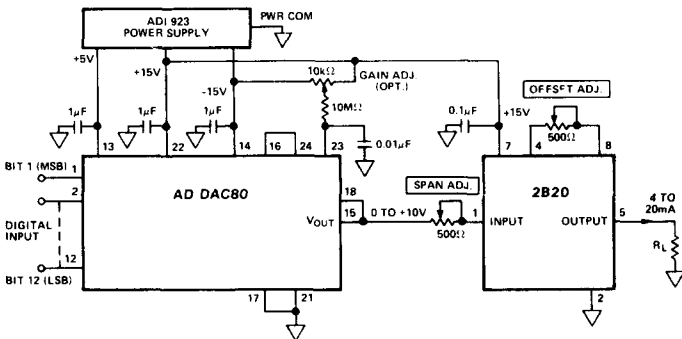

Figure 6. AD DAC80 - 4 to 20mA Current Loop Interface
**Interfacing Voltage Output D/A Converters:** The 2B20 is well suited in applications requiring 4 to 20mA output from D/A converters. The voltage necessary to power the current loop can be derived from the same +15V supply that is used to power the converter. The D/A converter, such as the 12-bit AD DAC80, should be connected for operation on the unipolar 0 to +10V output range. This is shown in Figure 6. After the load resistor connection has been made, the current loop can be calibrated using the offset and span adjustment potentiometers associated with the 2B20 (or the AD DAC80). First, a digital input code of all zeros is loaded into the D/A, and the offset adjustment potentiometer is adjusted for a current output of exactly 4mA. Then, a digital code of all 1's is loaded into the D/A, and the span adjustment potentiometer is adjusted for a voltage across the load that corresponds to a current of 20mA  $-1\text{LSB} = 19.9961\text{mA}$ .